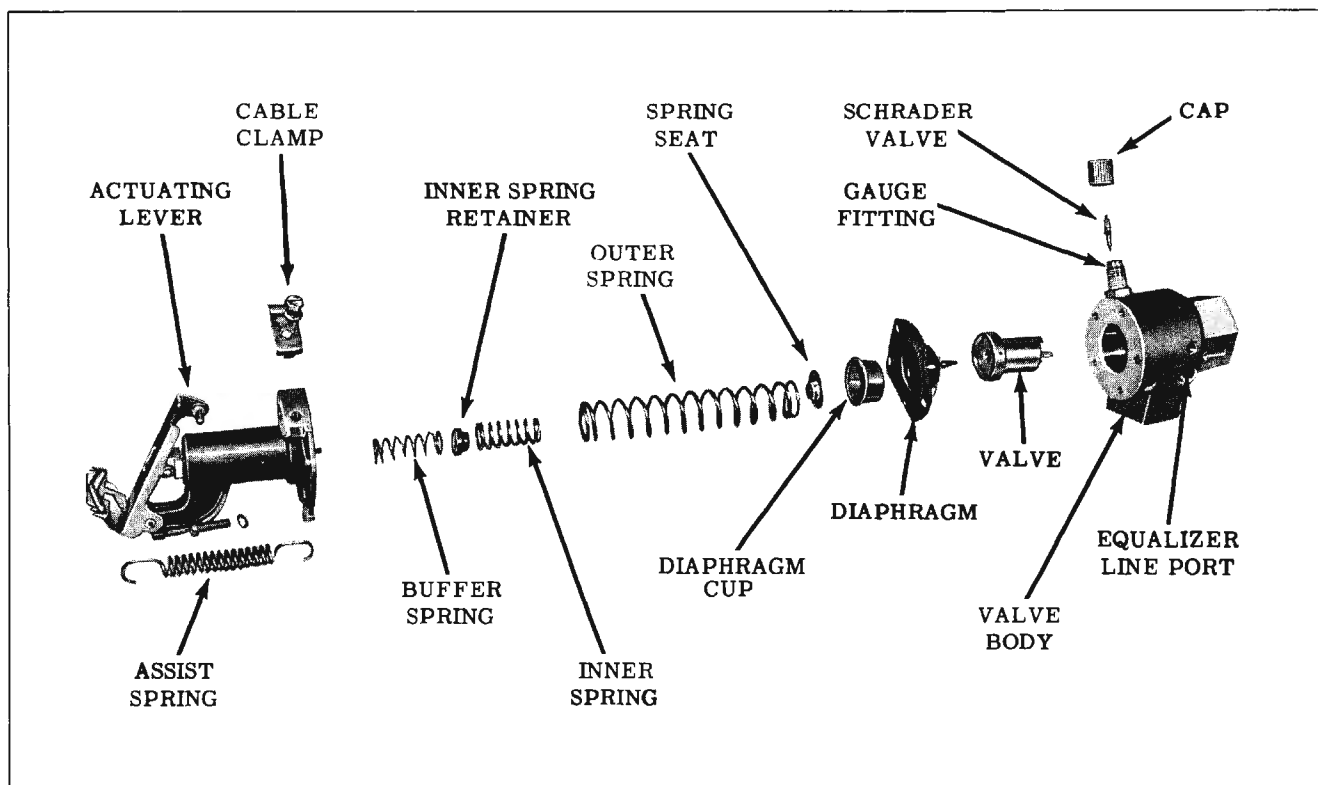

Fig. 15-127 Suction Throttling Valve
**Disassembly (Fig. 15-127)**
**Assembly (Fig. 15-127)**